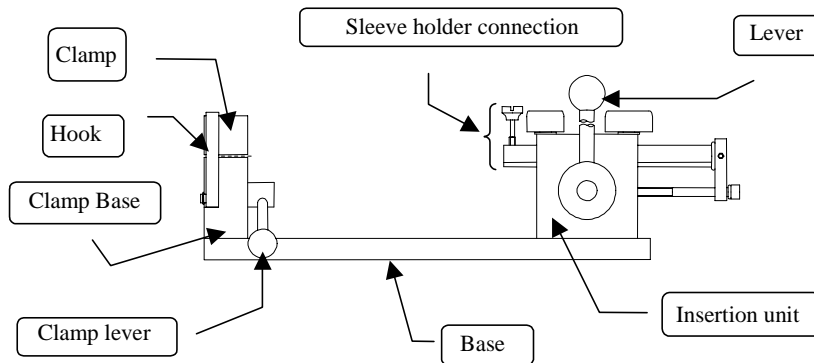

Figure 9. Parts designation of JT-A4
- Install to insertion tool JT-A4 the sleeve holder and then the sleeve as shown in Figures 9 and 10. (For applicable sleeve holders, refer to Table 7).